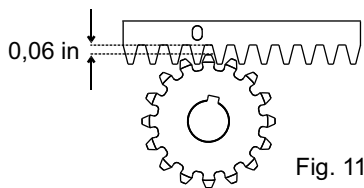

Fig. 11
5.6. Set the rack 0,06 in higher to avoid the gate weight loading on the pinion (Fig. 11).